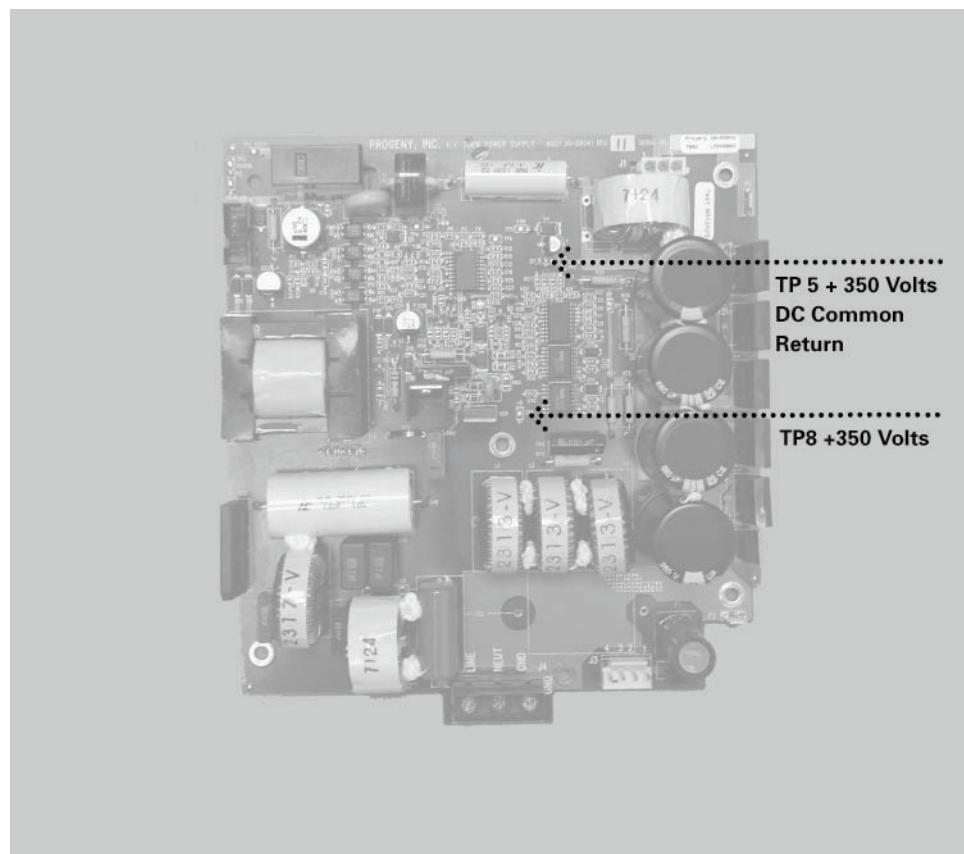

Figure 58
1. On the Power Supply Board, measure the voltage across TP5, the Common Return, and TP8, +350 volts DC, as shown in Figure 58. This voltage will be acceptable if measured between 330 and 390 volts DC. Values above or below this number indicate the need to replace the Power Supply Board.